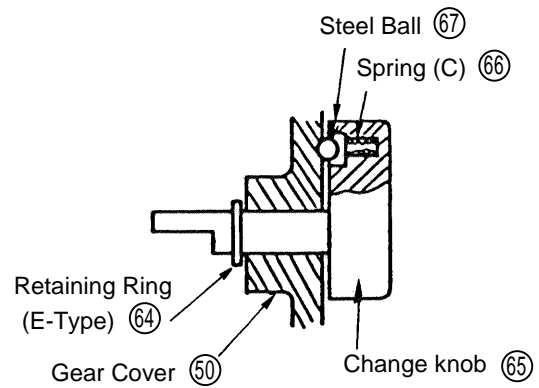

Fig. 14
- (2) Assemble Spring (C) ⑥⑥ and the D3.97 Steel Ball ⑥⑦ in the Change Knob ⑥⑤ as shown in Fig. 14.